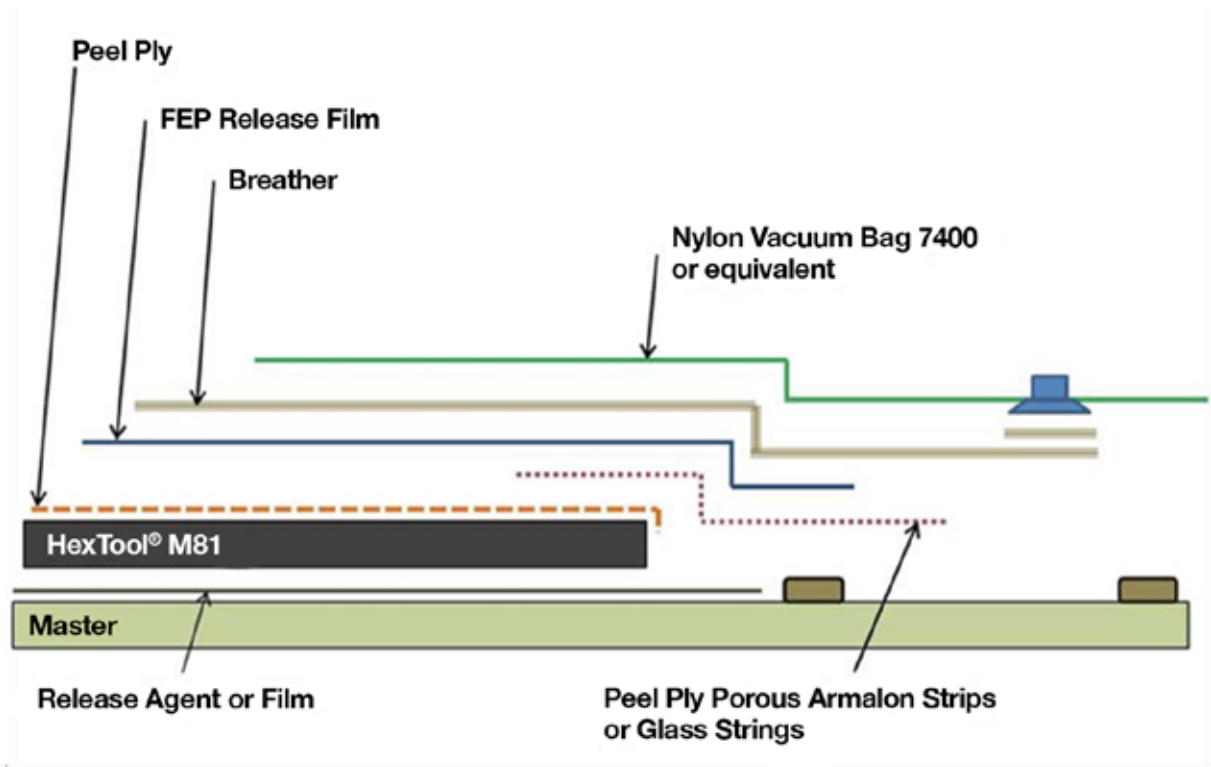

Figure 31
- A typical bagging assembly for M81 HexTool® is outlined in Figure 31.